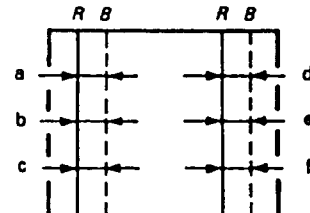

Fig. 3-7
3. Adjust the CORNER BOW (RV1703), so that RED and BLUE shown in Fig. 3-7 will become $a=b=c$ and $d=c=f$.